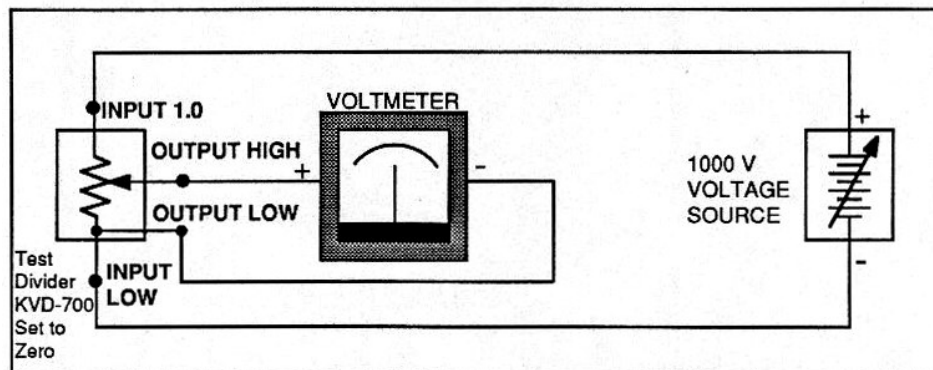

Figure 5.2. Setup Diagram for Measurement of Zero End Correction Relative to Output Common
2. Change the setup to the configuration of Figure 5.2. Note the change in the polarity of the voltage source. **MODE** switch should be at **NORM**. With the KVD-700 still set to zero, now measure the voltage of the **OUTPUT HIGH** relative to **OUTPUT LOW**. This is the zero or low end correction relative to output common. Confirm that it is $< \pm 0.004$ ppm of input.